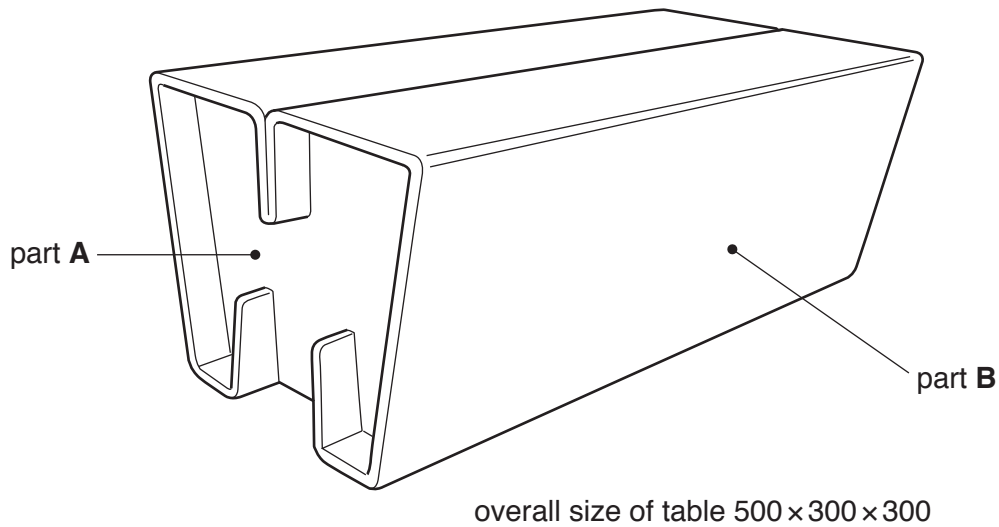

**Fig. 1**
- 1 Fig. 1 gives details about a combined desk and seat unit which is to be made in a school workshop. Five parts, made from blockboard, will slot together to make the frame that supports the top (part **A**) and the seat (part **B**).